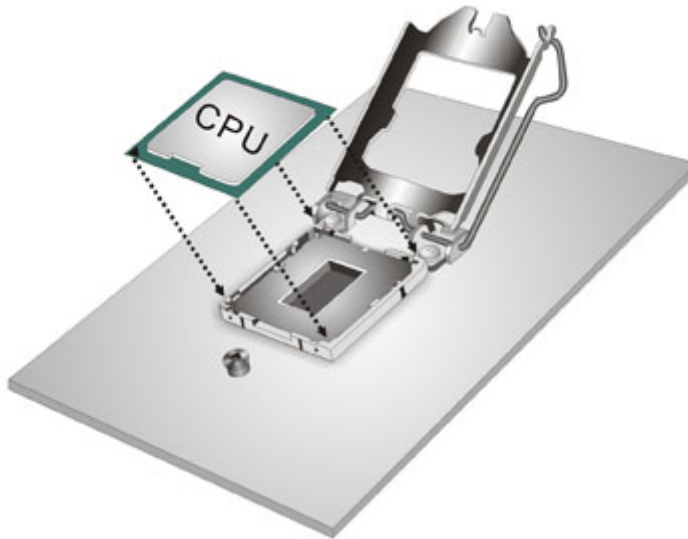

Figure 4-3: Insert the Socket LGA1151 CPU
Step 7: Insert the CPU. Gently insert the CPU into the socket. If the CPU pins are properly aligned, the CPU should slide into the CPU socket smoothly. See **Figure 4-3**.